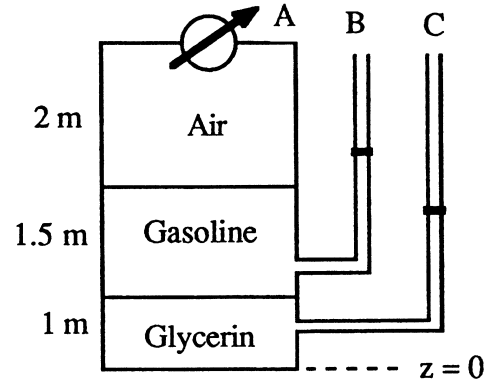

Fig. P2.11
**2.11** In Fig. P2.11, sensor A reads 1.5 kPa (gage). All fluids are at 20°C. Determine the elevations  $Z$  in meters of the liquid levels in the open piezometer tubes B and C.